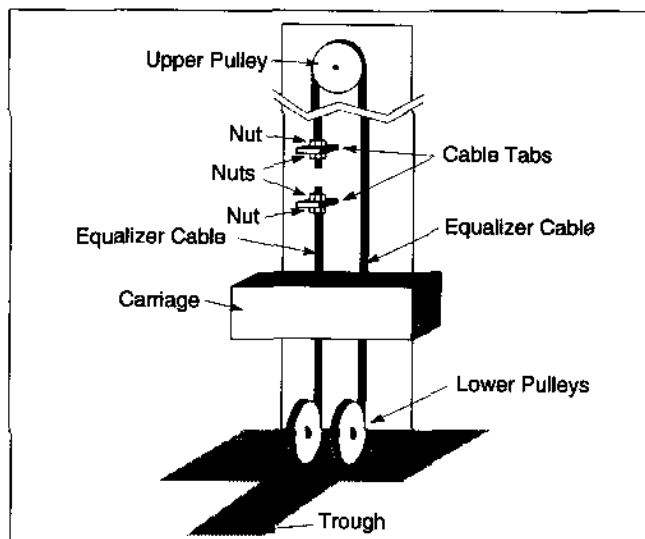

Figure 10 - Equalizer Cable Installation
3. Thread a nut about 2 inches onto the end of the cable and insert the end through the lower cable tab. Thread another nut onto the cable to a full nut of threads. Refer to Figure 10.